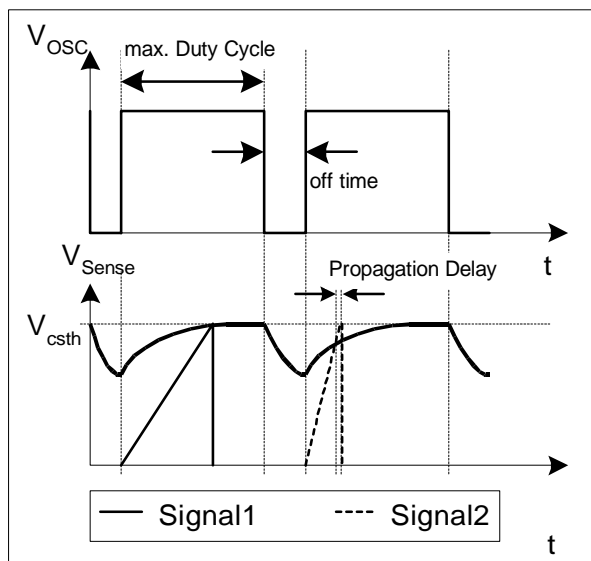

Figure 15 Dynamic Voltage Threshold  $V_{csth}$
E.g.  $I_{peak} = 0.5\text{A}$  with  $R_{Sense} = 2$ . Without propagation delay compensation the current sense threshold is set to a static voltage level  $V_{csth} = 1\text{V}$ . A current ramp of  $dI/dt = 0.4\text{A}/\mu\text{s}$ , that means  $dV_{Sense}/dt = 0.8\text{V}/\mu\text{s}$ , and a propagation delay time of i.e.  $t_{Propagation Delay} = 180\text{ns}$  leads then to an  $I_{peak}$  overshoot of 12%. By means of propagation delay compensation the overshoot is only about 2% (see Figure 15).
The propagation delay compensation is done by means of a dynamic threshold voltage  $V_{csth}$  (see Figure 15). In case of a steeper slope the switch off of the driver is earlier to compensate the delay.